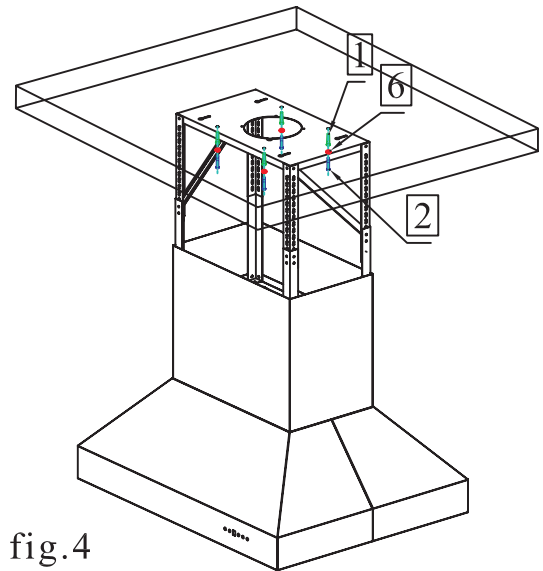

fig.4
**Step four:** Tighten the top mounting screws, securing the top mounting plate to the ceiling. fig 4.
1. Unpack the contents of the hood and decide which way you would like to install the hood. There are several ways to install the hood. L bracket mounting screw are provided for convenience. See Figure 4.